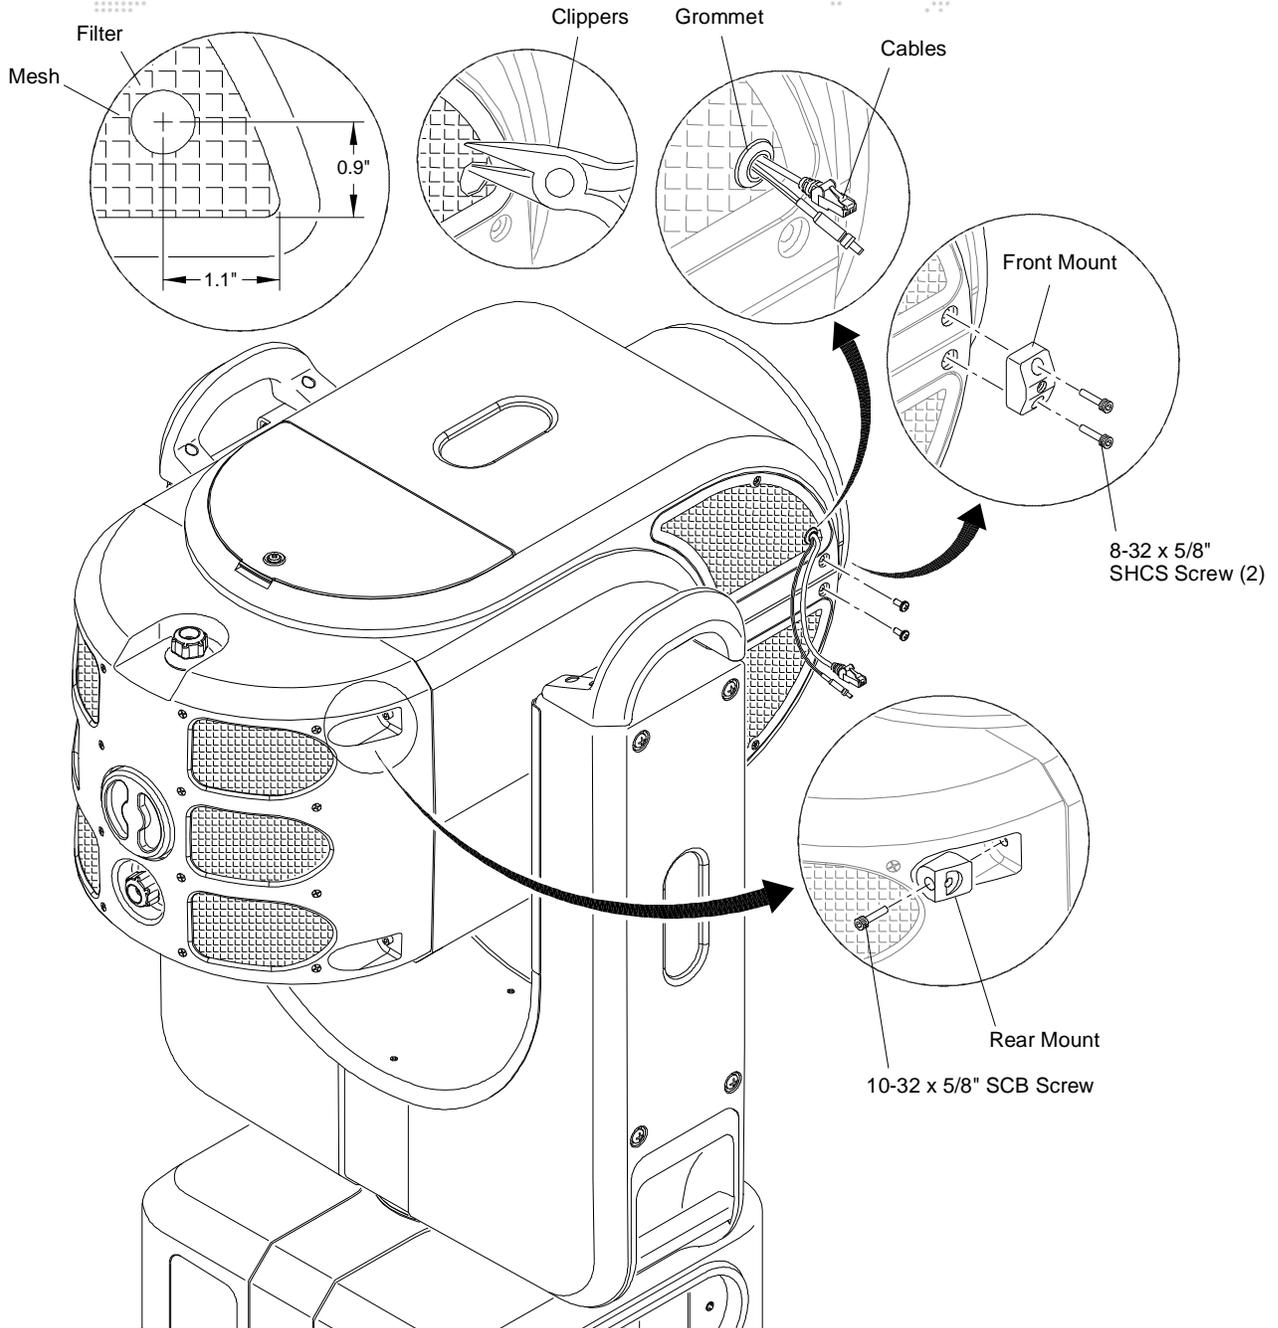

Figure 6: Installing Front and Rear Mounts
- a. At corner of filter mesh, use clippers to create a hole for cables as shown in **Figure 6**.
Step 13. At Aft Cover, remove screw from one corner as shown in **Figure 6**. (This is where the Rear Handle will be installed.)
- Step 15. At Head Covers, remove two screws as shown in **Figure 6**.